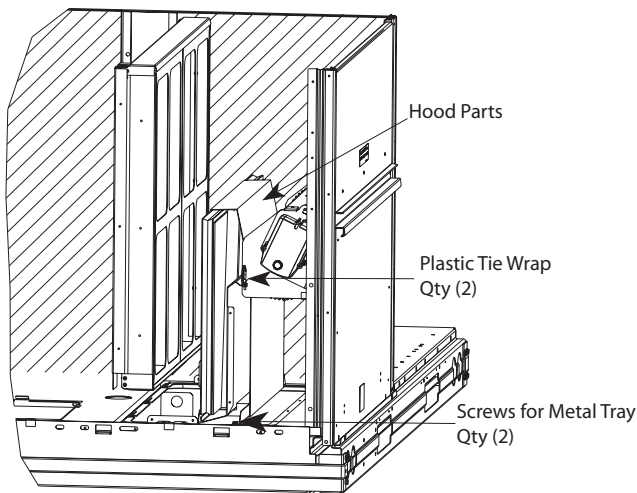

Fig. 11 - Economizer Hood Parts Location
3. Locate the (2) screws holding the metal tray to the basepan and remove. Locate and cut the (2) plastic tie-wraps securing the assembly to the damper. (See Fig. 11) Be careful to not damage any wiring or cut tie-wraps securing any wiring.